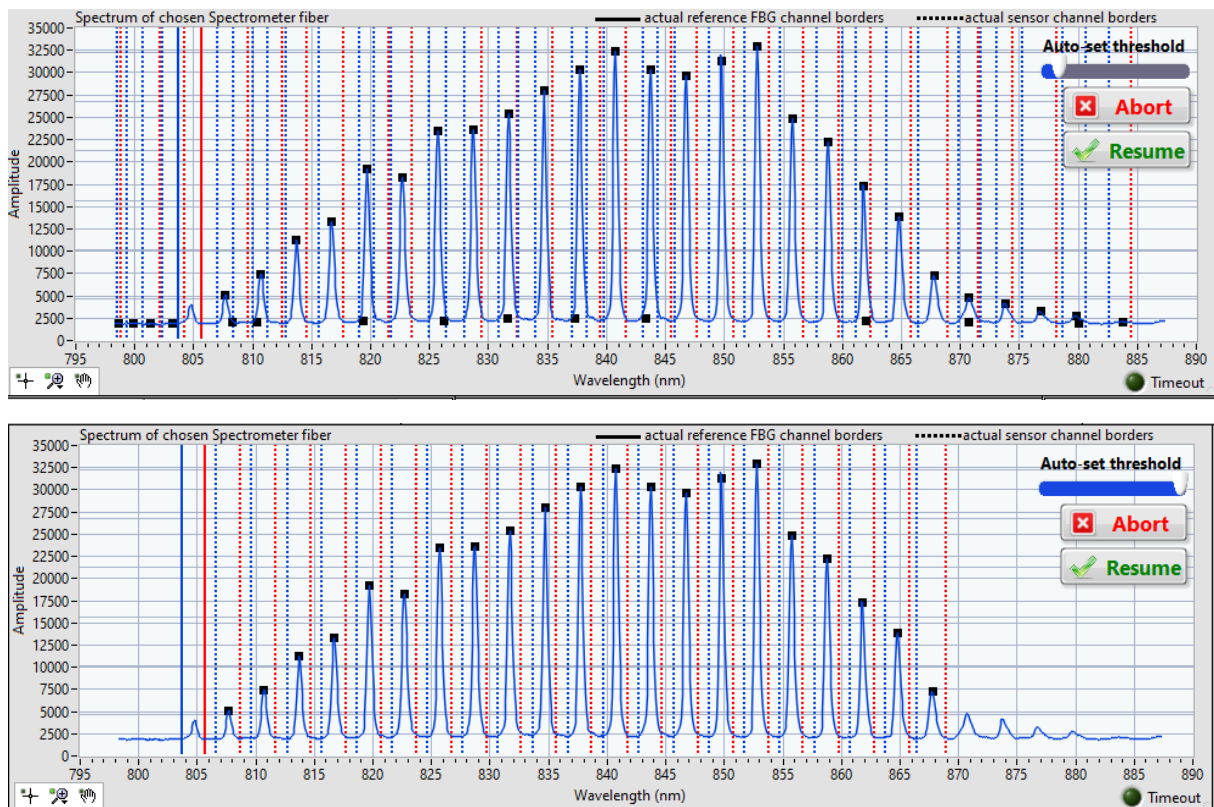

Fig. 21 Optimizing the Auto-set threshold button: Too low=>too many channels. Too high=>not all peaks found.
- "Adaptive auto-set": this function tries to recognize FBG peaks and creates peak detection channels around them, using only the white numbers described above. As soon as the Adaptive auto-set button is activated, a threshold slider and Abort/Resume buttons appear (see Fig. 21): It is now possible to increase or decrease sensitivity by manually changing the "Auto-set threshold". Too low threshold results in supernumerous peak detection channels (Fig. 21, upper graph), while with a too high threshold not all of the peaks are being detected (Fig. 21, lower graph). Pressing the „Resume“ button then transfers the found channels to the device.